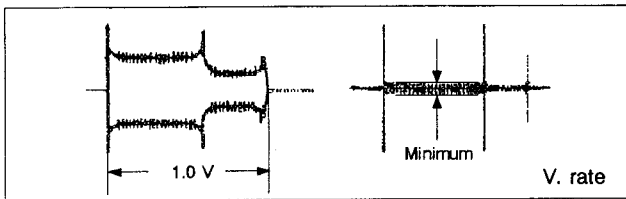

Fig. 3-1-11 CNR NC level
- 3) Alternately adjust R219 and R220 to minimize the 3.58 MHz level, i.e., so that only the noise component is observable, as in Fig. 3-1-11.